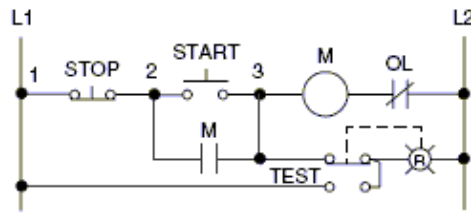

Fig. 19 Pilot Light Indicator (Push-to-Test).
7. Pilot Light Indicator (Push-to-Test - Fig.19)